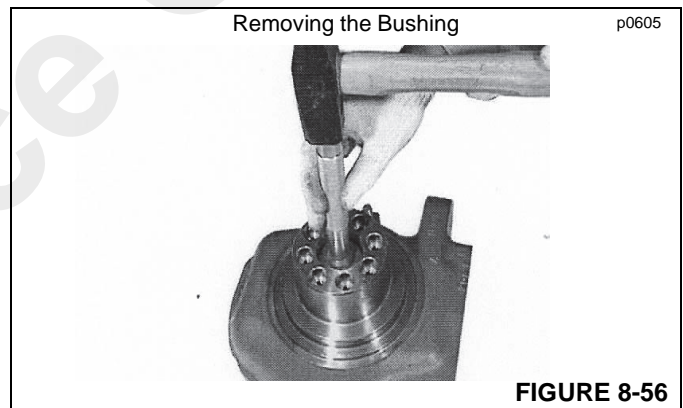

FIGURE 8-56
19. Turn the swivel housing over and using the special tool (Figure 8-19) and hammer remove the bushing (Figure 8-56).